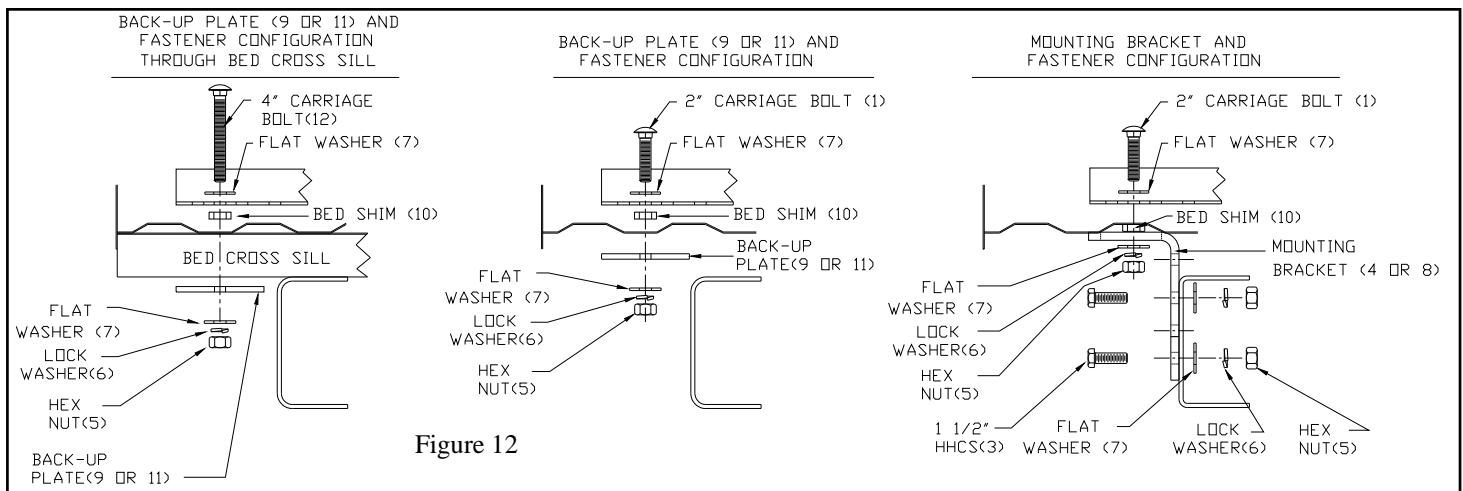

Figure 12
16. Install a 1/2"-13 x 2" Carriage Bolt (1) through each hole. For those hole locations that may encounter a bed cross sill, drill the bottom of the cross sill with a 9/16" drill bit, then install a 1/2"-13 x 4" Carriage Bolt (12), see Figure 12 page 8.
17. See Figure 12 on page 8, fasten the Mounting Brackets (4 or 8) to the bottom of the bed using the 1" x 2" Bed Shims (10) to fill the bed channel (Bed Shims keep the bed channels from collapsing when the bolts are tightened.), Flat Washer (7), Lock Washer (6) and Hex Nut (5). If necessary, clamp the bracket to the side of the frame to be certain that it will remain flush against it.